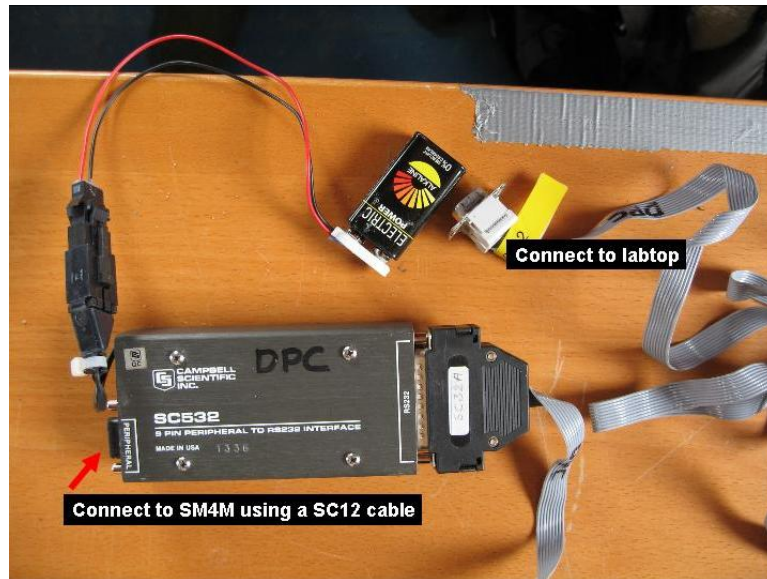

Fig 2.7 Offload equipment powered by a 9 V battery, -can be used when offloading storage module in the field (right).
4. Connect the storage module to the peripheral port on the SC532 interface by a SC12 cable. Power the SC532 from the power outlet. Connect the SC532 interface to the COM-port at the laptop by a RS232 cable (Fig 2.7).
7. On the next menu choose [SM4M/SM16M] (1).
8. Press [Connect] and the computer start communicating with the storage module (2).
9. Choose [Data] in the lower left side of the screen (3).
10. Under “File Naming Options”, name the file xxYYMMDD (xx= M4, YY = year, MM = month and DD=day) and choose a directory (4).